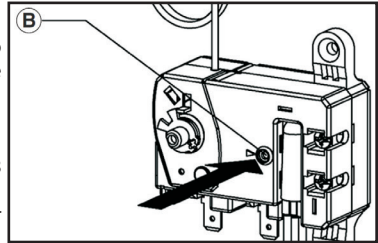

Figure 9 - High Limit Switch Reset Detail
- Firmly press the reset button with the tip of a ball point pen or similar object. See Figure 9, B.